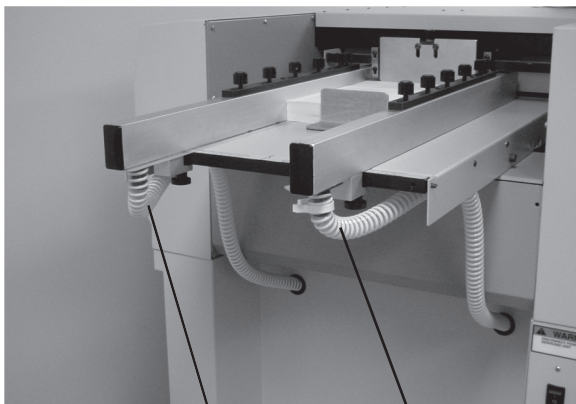

Fig 11
6. Attach the left and right blower hoses to the appropriate ends of the pile guides on the feed table (Fig 11).